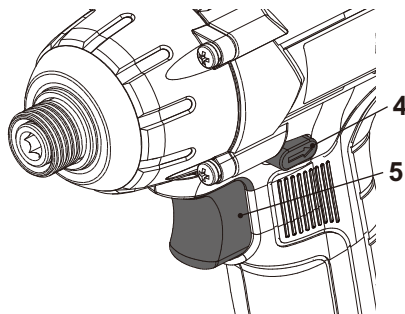

Fig. 9
1. Switch the product on by pressing the on/off switch (5) (Fig. 9).
2. Switch the product off by releasing the on/off switch (5) (Fig. 9).